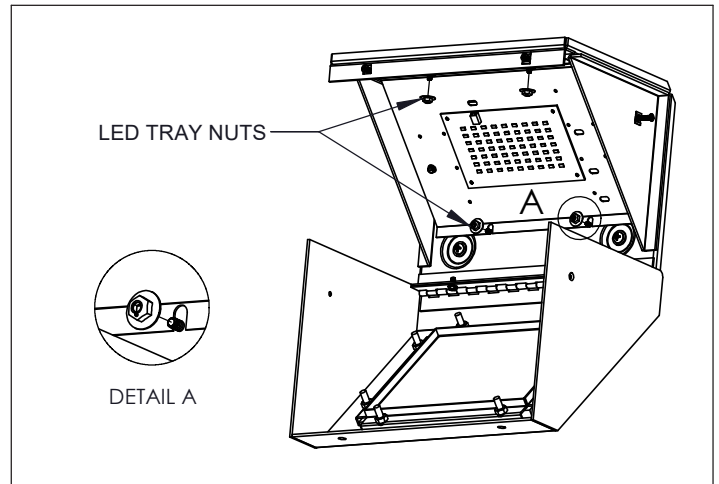

Figure 2
2. Remove (4) nuts and pull LED gear tray out of fixture. Remove necessary K.O. that best suits installation before mounting (Fig. 2)